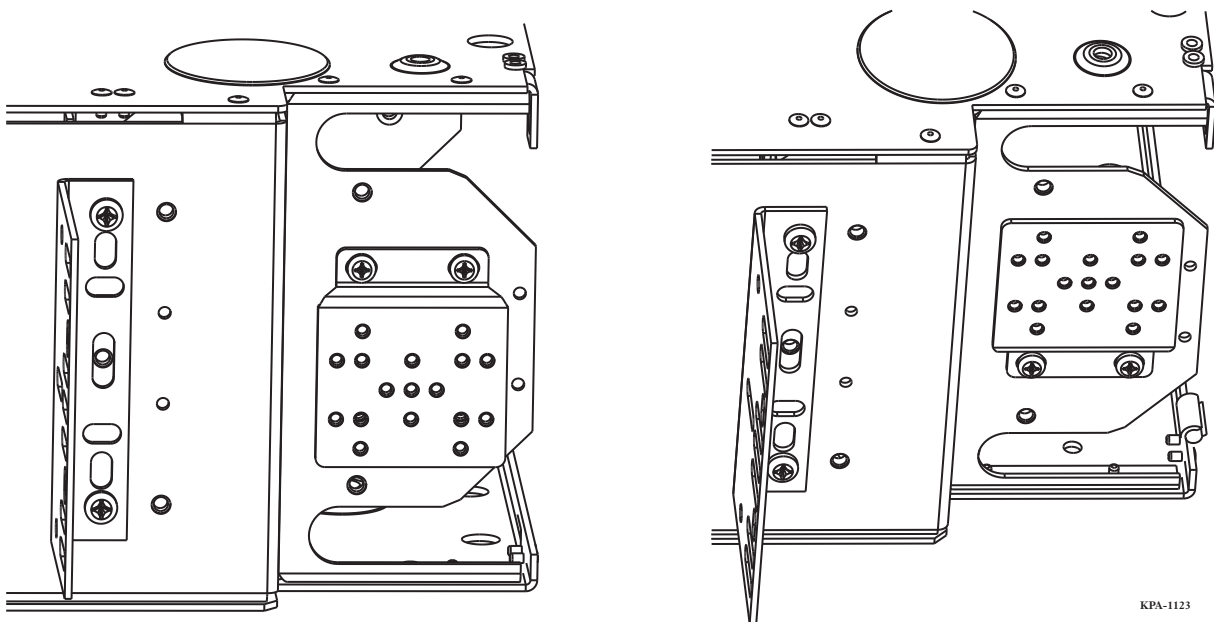

Figure 6
Step 1: Determine the location for cable entry into the housing and install bracket in the orientation shown for cable entry from that direction (Figure 6).